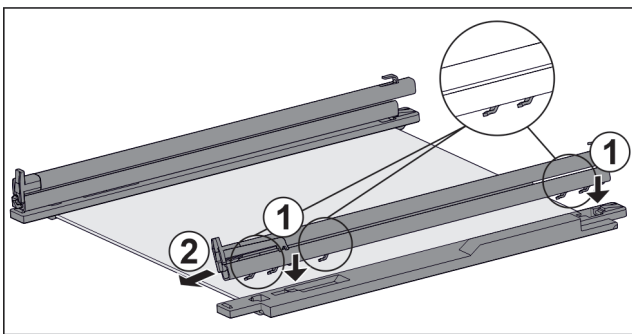

Fig. 57 Glass shelf with rails and retaining parts
- ▶ Place rail hooks onto the openings of the **left** retaining part. Fig. 57 (1)
- ▶ Push rail forwards. Fig. 57 (2)
- ▶ Place rail hooks onto the openings of the **right** retaining part. Fig. 57 (1)